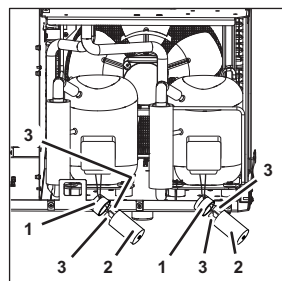

Figure 130
2. Remove the protective cap (Figure 130/1) from the starting capacitor (Figure 130/2).
3. Disconnect the plugs (Figure 130/3) of the starting capacitor (Figure 130/2).
4. Connect the plugs (Figure 130/3) to the new starting capacitor (Figure 130/2).
5. Attach the protective cap (Figure 130/1) to the starting capacitor (Figure 130/2).
6. Position the starting capacitor (Figure 130/2) within the unit.